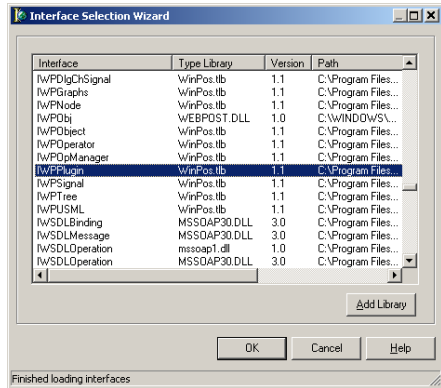

Fig 2.2 Interface Selection Wizard
- Press the button **List**. The dialog *Interface Selection Wizard* (Fig. 2.2) will open.